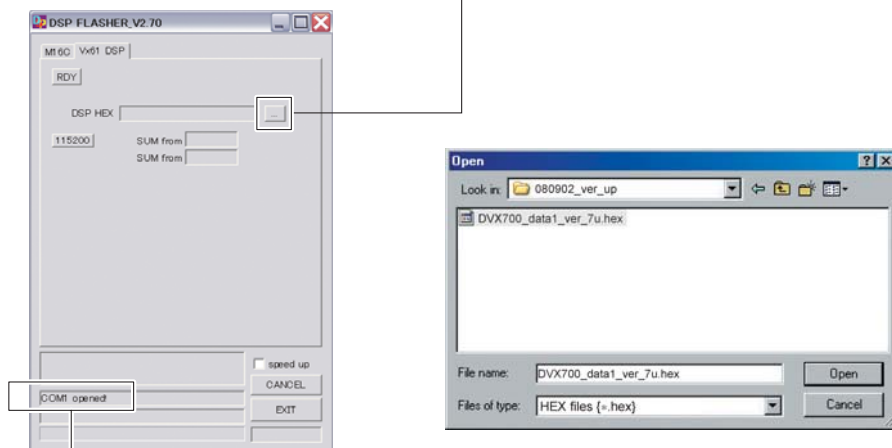

Fig. 1
"DSP FLASHER_V2.70" is displayed. (Fig. 1)
2. Click [Vx61 DSP]. (Fig. 1)